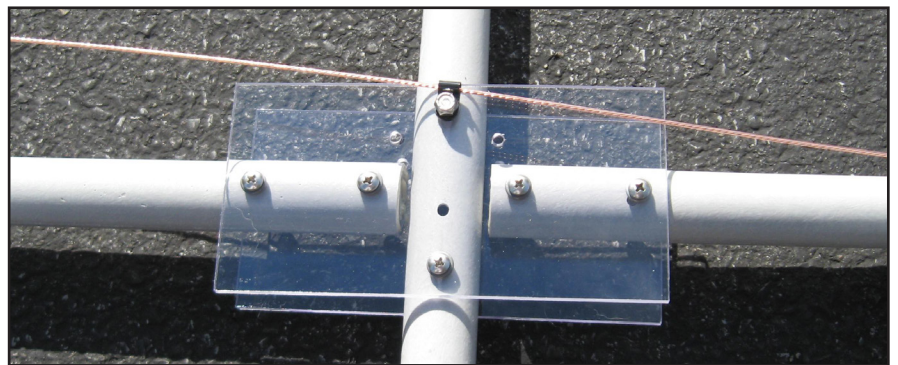

Fig. 81
- On the Reflector Element end of the Boom, locate the Black Cable Clamp as shown in Fig. 81. Temporarily remove the 10-24 SS Anti-vibration Hex Nut and Black Cable Clamp, then insert the wire. Replace the Black Cable Clamp with wire and the Hex Nut on the Machine Screw and tighten well.